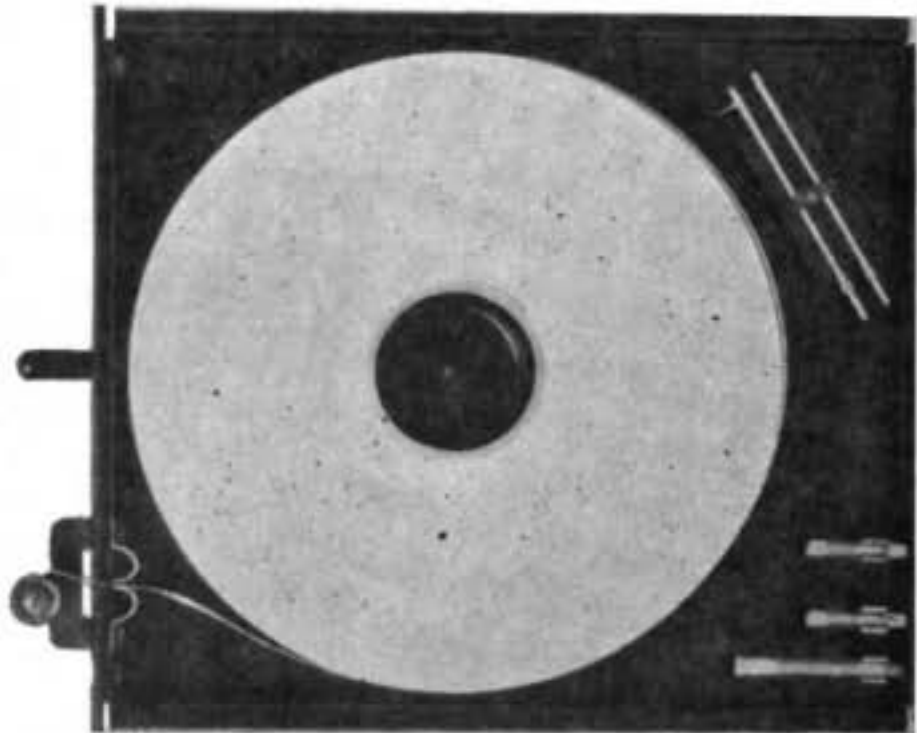
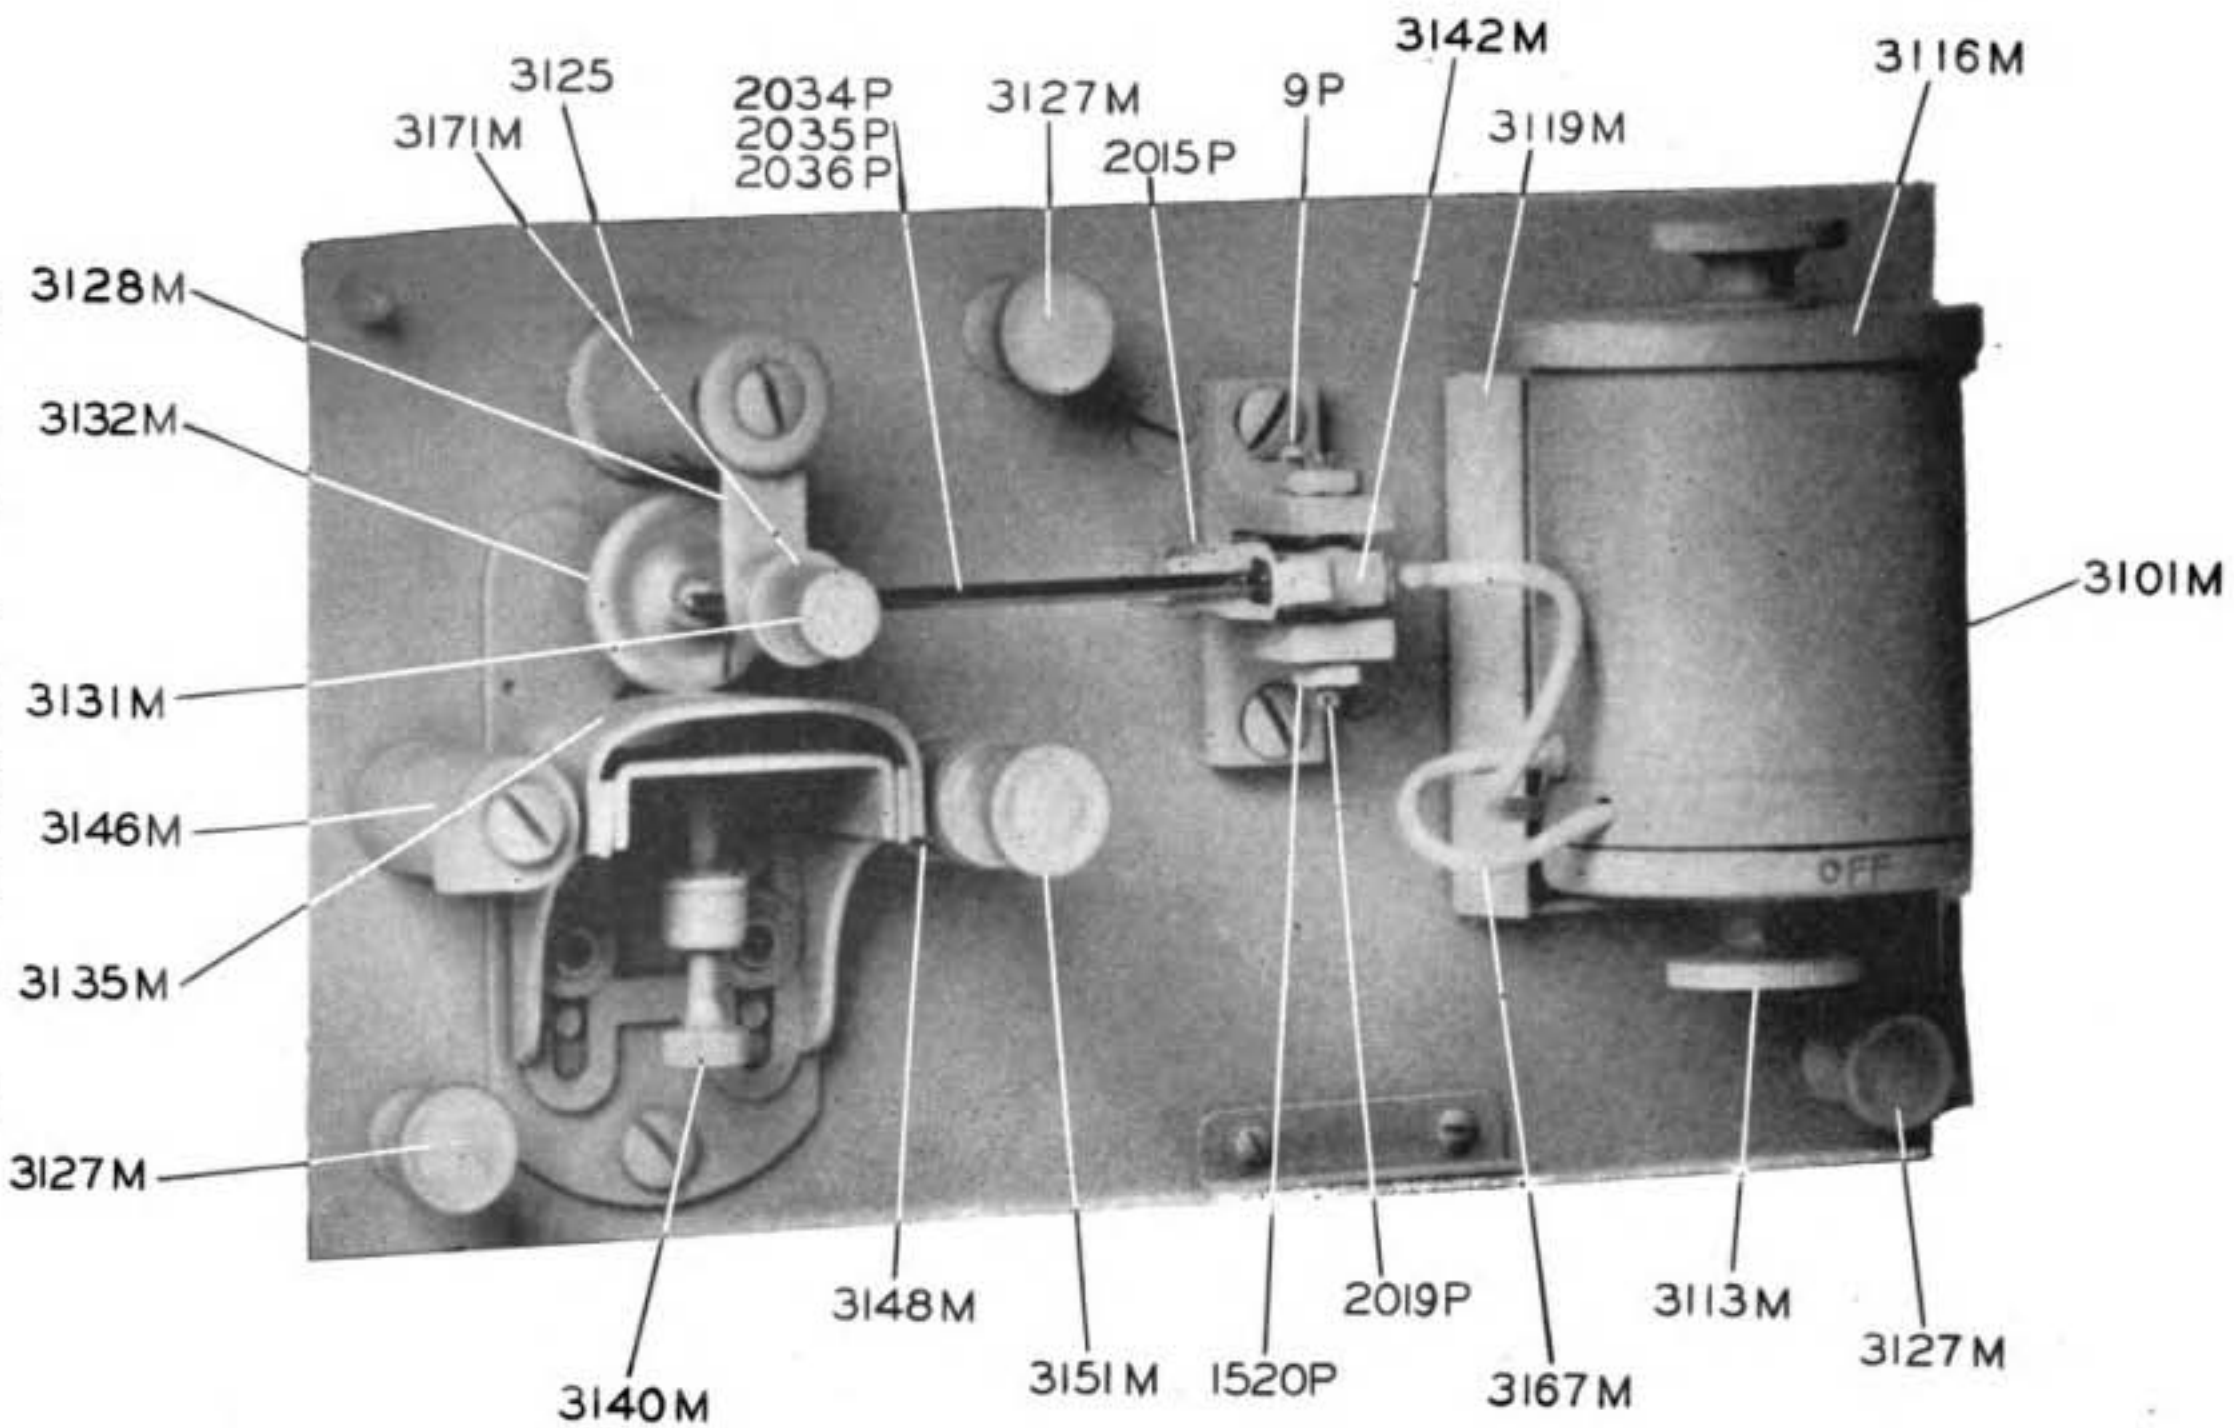

Figure 5—Recorder BC-1016, Tape Drawer With Tape Installed.
Figure 6—Recorder BC-1016, Inker Assembly.
7. SEE THAT A PEN OF THE PROPER WIDTH FOR THE USE TO WHICH THE RECORDER IS TO BE PUT IS IN PLACE. THE FINE LINE PEN (2036P) IS IN PLACE IN THE RECORDER WHEN ORIGINALLY SHIPPED. IF THE RECORDER IS TO BE USED FOR OTHER THAN HIGH SPEED COMMUNICATION PURPOSES, SELECT AND INSTALL THE PROPER PEN. THESE PENS WILL BE FOUND IN THE TAPE DRAWER. (SEE PAR. 7H AND FIG. 5.)
(Note: A panel light housing (3125, FIG. 6) is provided through which an electric lamp (2552P) illuminates the pen and tape while the recorder is in operation. If you ever have to operate the recorder continuously without general lighting, this lamp will enable you to do so.
f. *Locating Paper On Anvil.*—Adjustment knob (3151M, FIG. 6) on which tape guide roller (3148M, FIG. 6) is mounted controls the location of paper tape on the anvil. Paper tape may be moved to any desired location on the anvil by turning adjustment knob in proper direction as determined by corresponding movement of paper tape.
(2) *Ink for Low Speed Recording.*—For low speed recording for instructional and training purposes a suspension type of ink is generally used, with the wide line pen. For this purpose you will be issued Higgins Eternal Black (stock number 6M615), or equal. Since the pen is apt to become clogged when this ink is used, refer to PAR. 7k (1), (2), and (3) for instructions for its use and for cleaning stopped up pens. **CAUTION: BE SURE THAT INK SUITABLE FOR THE USE TO WHICH THE RECORDER IS TO BE PUT IS AVAILABLE.**
h. *Selecting Pen.*—Three pens are supplied with each recorder (one installed and two in tape drawer, FIG. 5 and have the following applications:
(1) *Fine Line Pen (2036P).*—.015 inch line. Its use is primarily for communication purposes, that is, when the recording is made for visual reading. This pen should always be used for high speed recording with solution type ink [Telegraph Blue—see PAR. 7g (1)].
(3) *Wide Line Pen (2034P).*—.050 inch line. With the proper ink, [see PAR. 7g (2)] this pen is used at speeds less than 100 words per minute to produce the inked tape recording required for use with automatic photo cell keyers such as Keyer TG-34 or Keyer TG-10 which convert the ink record into an audible code signal.
i. *Inserting Pen.*—First lower tape anvil (3135M, FIG. 6) to at least 1/4 inch below pen point; swing pen adjusting arm (3128M, FIG. 6) out of the way to the left; select pen of appropriate width; hold pen (at pen point end) in left hand with point down and place other end of pen in pivot block (3142M, FIG. 6), sliding firmly into this block until collar on pen clears catch (2015P, FIG. 6). At this point, pen catch holds pen securely in position in pivot block.
j. *Adjusting Pen Stop Screws.*—(FIG. 6) Two variable pen stop screws (3131M) and (3132M) are provided for adjustment of pen swing width. Rear stop (3132M) maintains its adjustment by means of spring tension, but the front stop (3131M) is securely held in place by the lock nut (3171M). The stops can be adjusted for a maximum pen swing of practically the entire width of the 3/8-inch tape. This extreme pen swing will rarely or never be used and should be avoided. It may be used only with low speed recording. As the speed of recording is increased, the width of pen swing must be decreased. The load on the driving mechanism is increased as width of pen swing increases. For longest life of the driving and pen mechanisms, keep pen swing within reasonable limits. Normal operation at reasonable speeds calls for the setting of stops for a pen swing of about 3/16 inch at the most.
k. *Inker Assembly.*—(FIG. 6) Before filling ink cup (3101M), make sure that manual pump operated by knurled knob (3113M) on bottom of cup is at OFF as indicated by arrow at lower edge, and that transflex ink tubing (3167M) is securely in place on both cup and pivot block connections. Fill ink cup with appropriate ink to about two-thirds full. After filling, replace cover loosely so as to allow air to enter cup. **CAUTION: Do not screw cup cover down tight when recorder is in operation or ink will not flow continuously due to lack of air pressure.** Turn manual pump clockwise (to right) until enough ink comes through pen point to form a blot on the tape. Use blotter to absorb excess ink.
(1) If recorder has been used previously and ink does not flow evenly, the pen may need cleaning. This can be done roughly by using a pen reamer (3713M, FIG. 5) to remove ink particles which may have clogged the pen point tube. These pen reamers are in the tape drawer. Periodically, the pen should be removed from recorder and washed in appropriate solution. For certain inks (Telegraph Blue), warm water is satisfactory. For other inks, a suitable solvent should be used.
(2) Leave pump at ON when recorder is in operation. If recorder is to be transported with ink in cup, remove ink in pen, transflex ink tubing and pen block by turning knurled knob on bottom of cup counter-clockwise (to the left) until ink has been pumped back into cup. Then leave pump at OFF and screw ink cup cover down tight. Suspension type inks have a tendency to precipitate solid matter. If ink of this type is left in the pen point for too long a period, such precipitation may occur and will necessitate cleaning of pen point. When recorder will not be used for a reasonable time, withdraw the ink from the pen and transflex tubing into the cup in the manner described above. This will reduce chances of the pen point becoming clogged. This precaution is not necessary when ink of the solution type such as Telegraph Blue is used.
(3) The ink cup can be raised by sliding it upwards in its bracket (3119M, FIG. 6). Ordinarily this is not necessary, but with certain suspension types of thick ink, (such as Higgins Eternal Black), especially when it is used with the wide line pen (which requires a more than normal flow of ink), better operation may be secured by raising the ink cup. This allows gravity to aid the normal ink flow due to capillary action. If ink flow is too free, lower the ink cup.